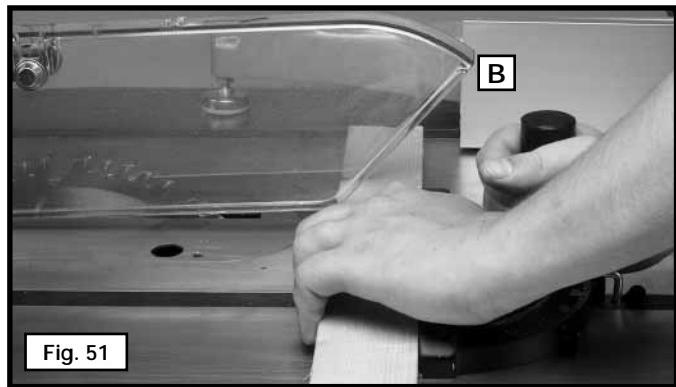

Fig. 51
When cross-cutting a number of pieces to the same length, clamp a block of wood (B) to the fence and use it as a cut-off gauge (Fig. 51). The block (B) must be at least  $3/4"$  thick to prevent the cut-off piece from binding between the blade and the fence during removal from the saw table. Always position this block of wood in front of the saw blade. Once the cut-off length is determined, lock the fence and use the miter gauge to feed the work into the cut.
**CAUTION** When using the block (B) Fig. 51 as a cut-off gauge, it is very important that the rear end of the block be positioned so the workpiece is clear of the block before it enters the blade.